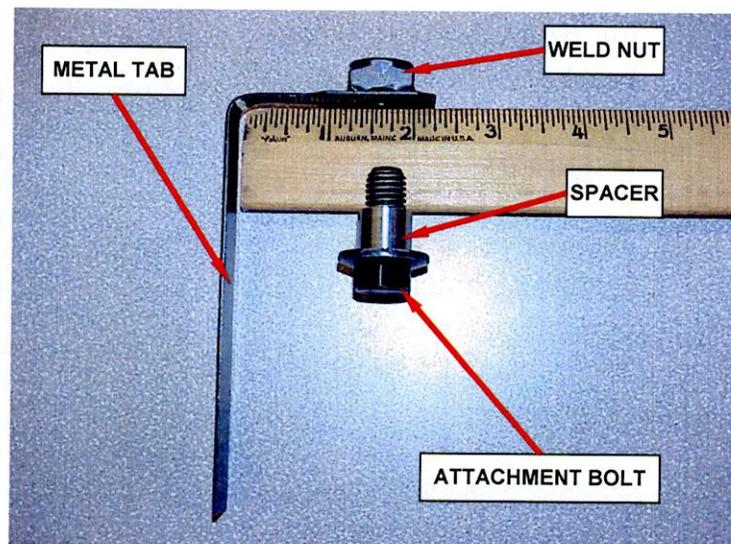

Figure 6 – Handle Nut Tab Bending Procedure
a. Place a mark on the metal tabs of all four handle nuts at  $2\frac{1}{4}$  inches from the nut end. Align the mark on the tab in a vice and bend the tab at a 90 degree angle in the direction opposite the weld nut. Repeat this procedure on all four handle nuts (Figure 6).
- b. Insert the four supplied spacers on the four supplied attachment bolts (Figure 6).